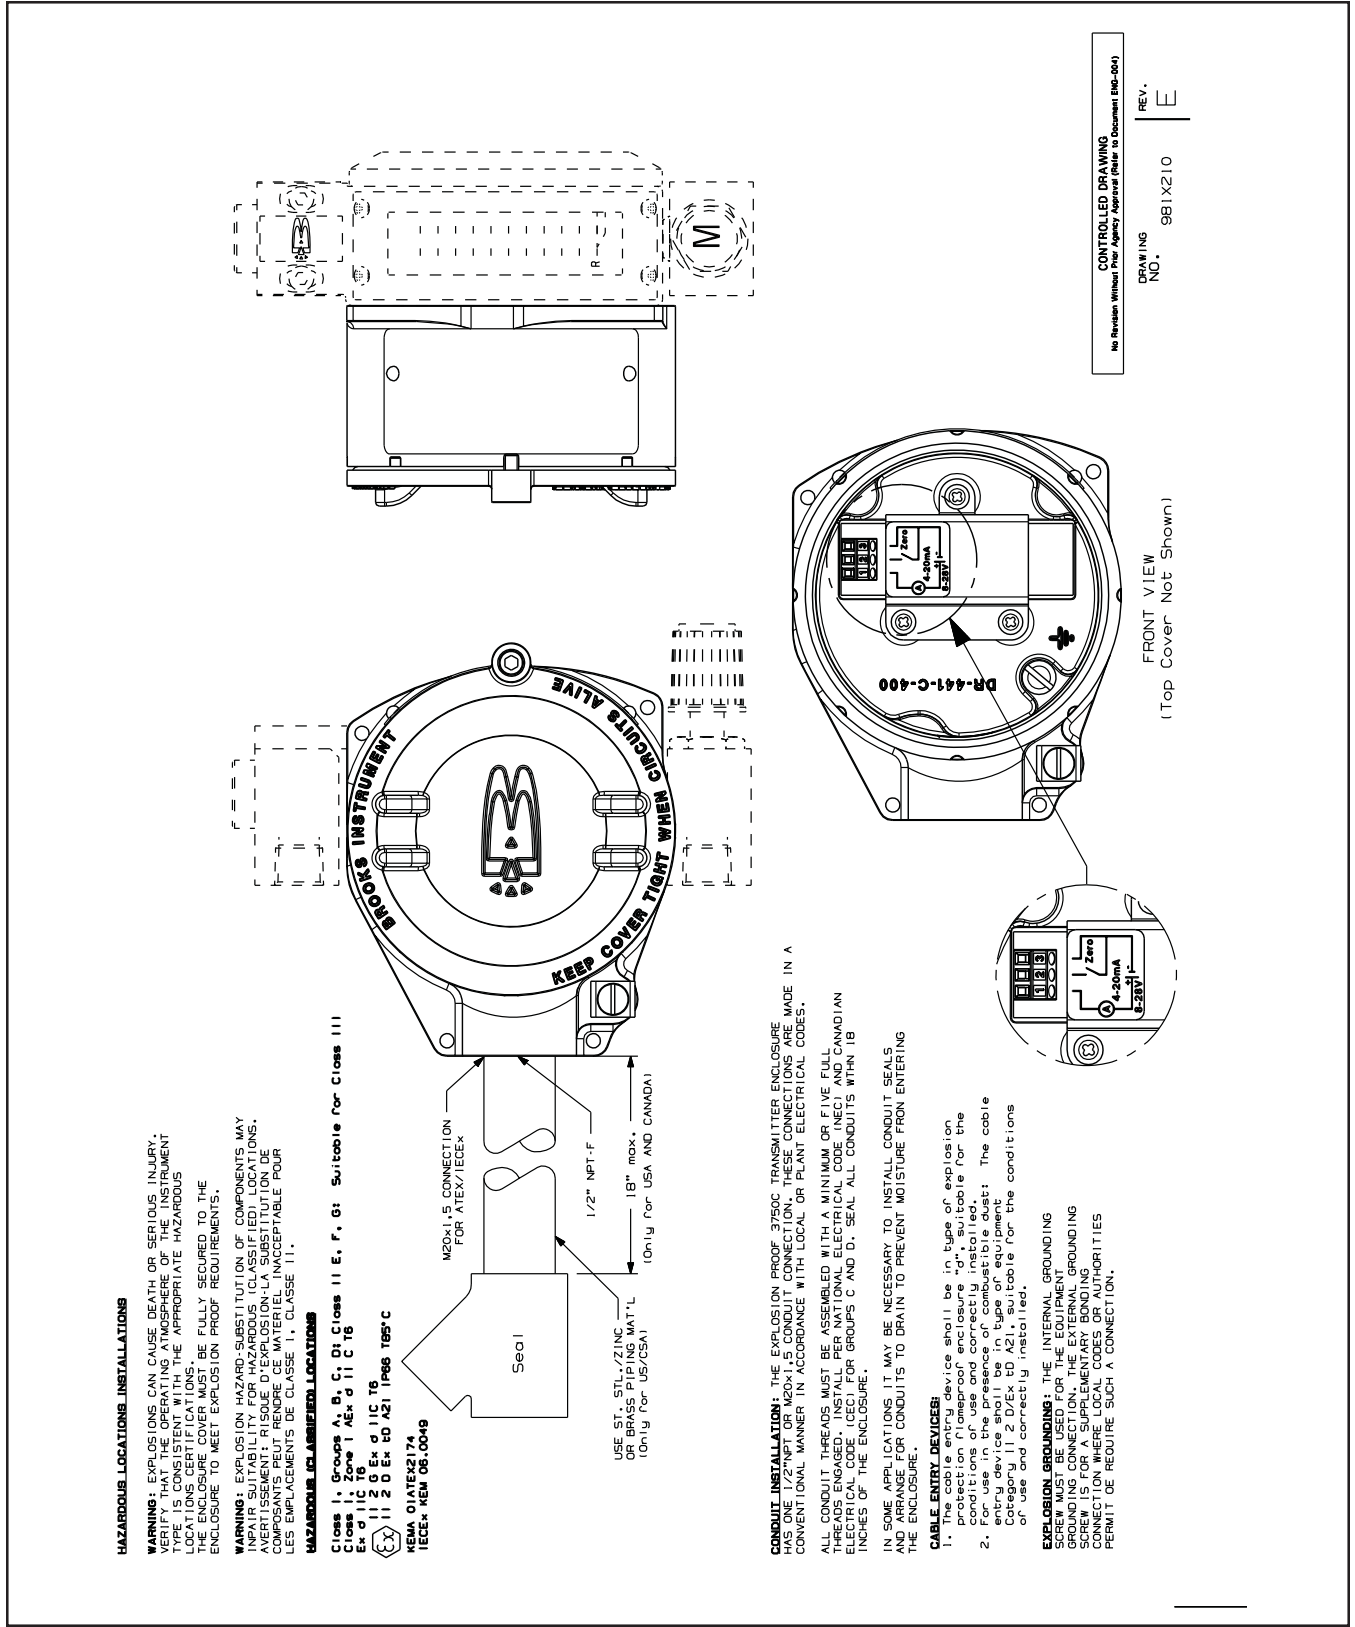

Figure 2-8 Transmitter Wiring Diagram for XP Systems
- C. If the installation is to be protected by Division 1 and Zone 1 explosion-proof methods, explosion-proof installation methods must be followed. Refer to Figure 2-8.